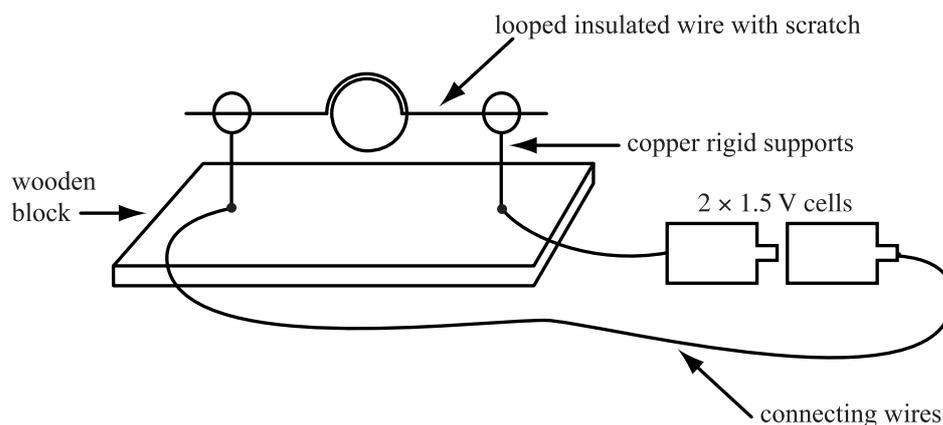

Figure 3.3: Simple motor.
4. Mount the loop onto the supports as shown in *Figure 3.3*.